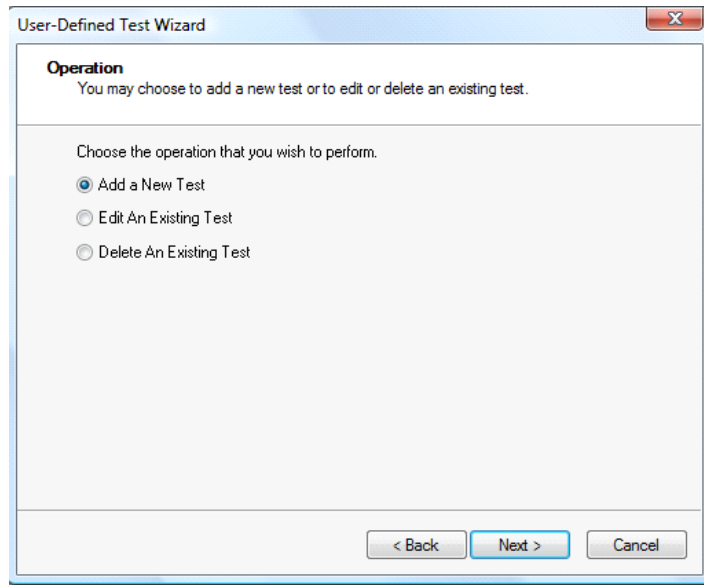

Figure 4. User-defined Test Wizard
4. In the Operation window, select Add a New Test, as shown in Figure 4.
Figure 4 shows the User-Defined Test Wizard where ‘Add a New Test’ option is selected.